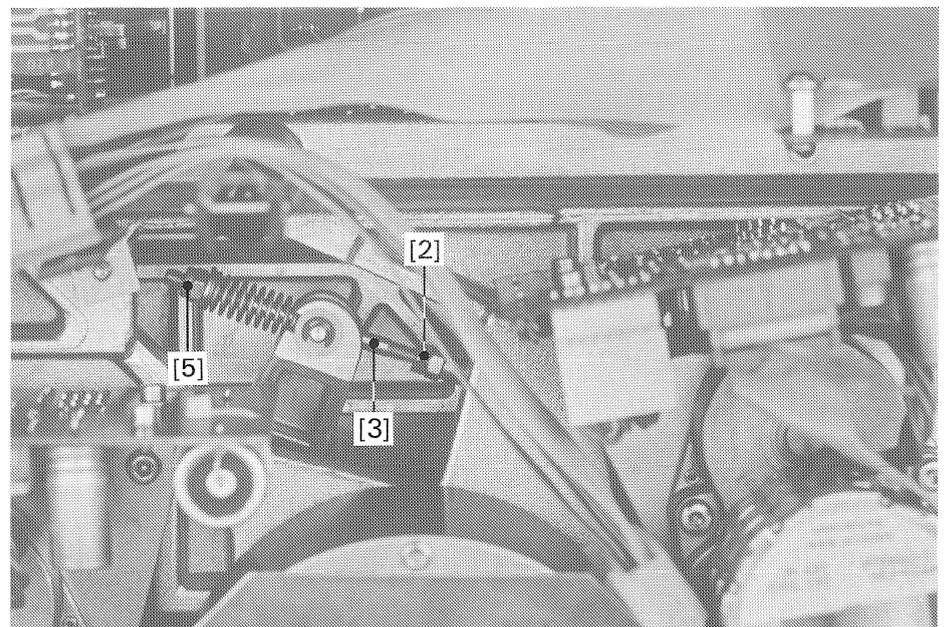

Fig. 25
- Loosen the locknut [2] (key size 7 mm), see Fig. 25, on the connecting rod of the pinch roller assembly and turn the connecting rod [3] until a gap of approx. 0.1 mm is obtained between the pinch roller shaft and the headblock.
- Refer to Fig. 25: the adjustment nut [5] (key size 7 mm) of the pinch roller assembly is accessible through a cut-out. Turn this nut until the specified value is attained.